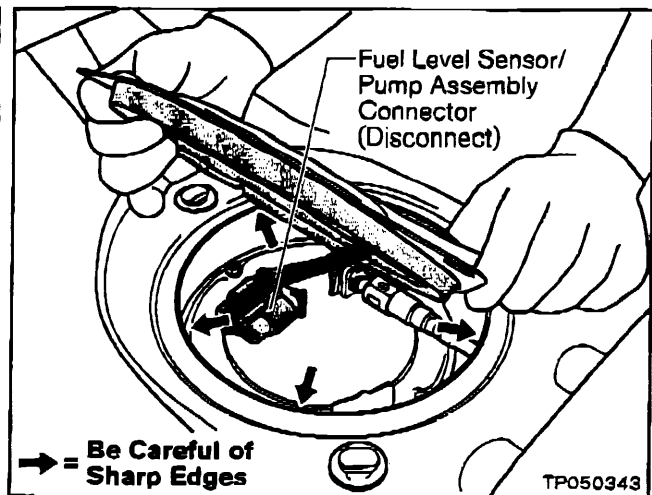

Figure 2b
- b. Then, lift the Cover UP and reach under and disconnect the Fuel Level Sensor/Pump Assembly Connector (see Figure 2b).
**CAUTION:** Be careful of the sharp edges around the Inspection Hole (see Figure 2b).